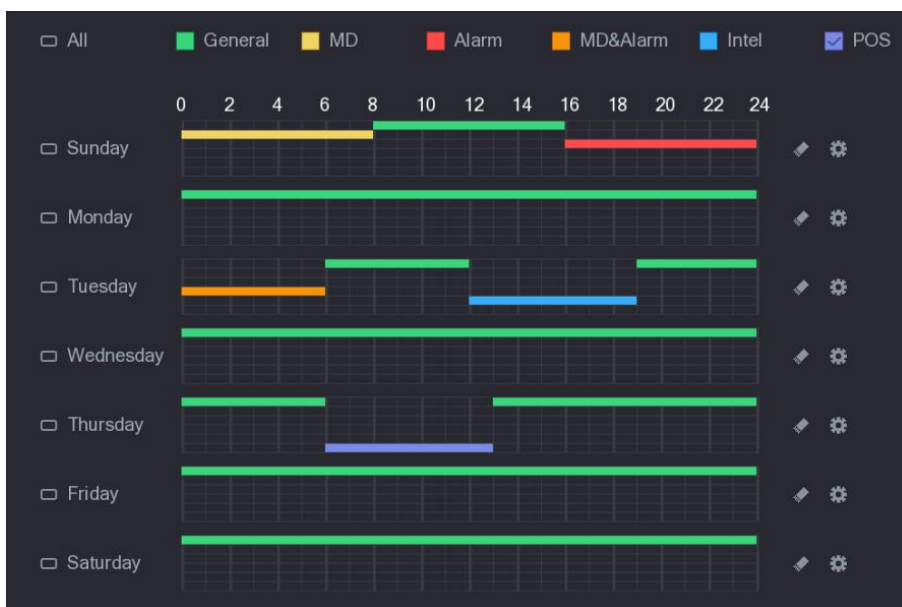

Figure 5-29
- On the timeline, drag to define a period. The Device starts recoding the selected event type in the defined period. See Figure 5-29.